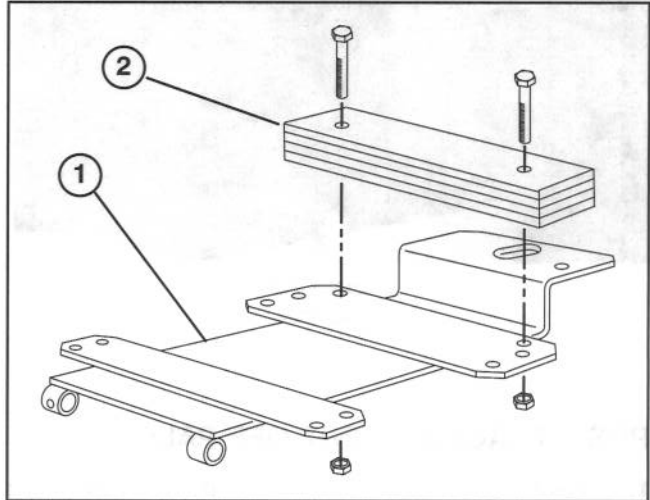

Figure 10
1. Mount weight assembly to rear holes in seat support with (2) 5/16-18 x 2-1/4" lg capscrews and locknuts (Fig. 10).